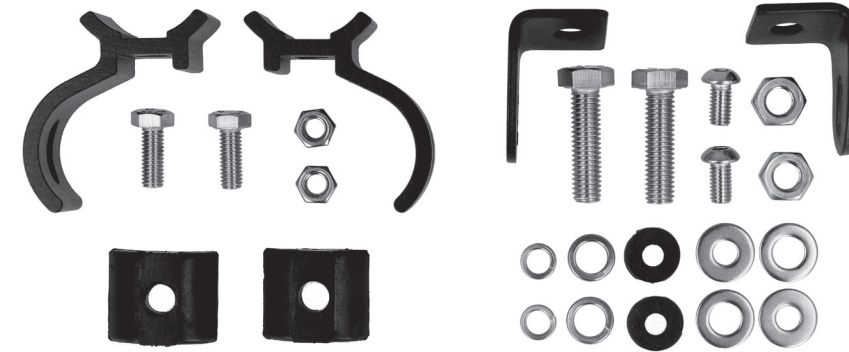

Fig. 1
- 1 Determine the best mounting location for the Lightbar, ensuring it does not interfere or block any existing vehicle systems. The Lightbar is supplied with coated steel universal mounting brackets and stainless steel (SS) hardware. (See Fig. 1)